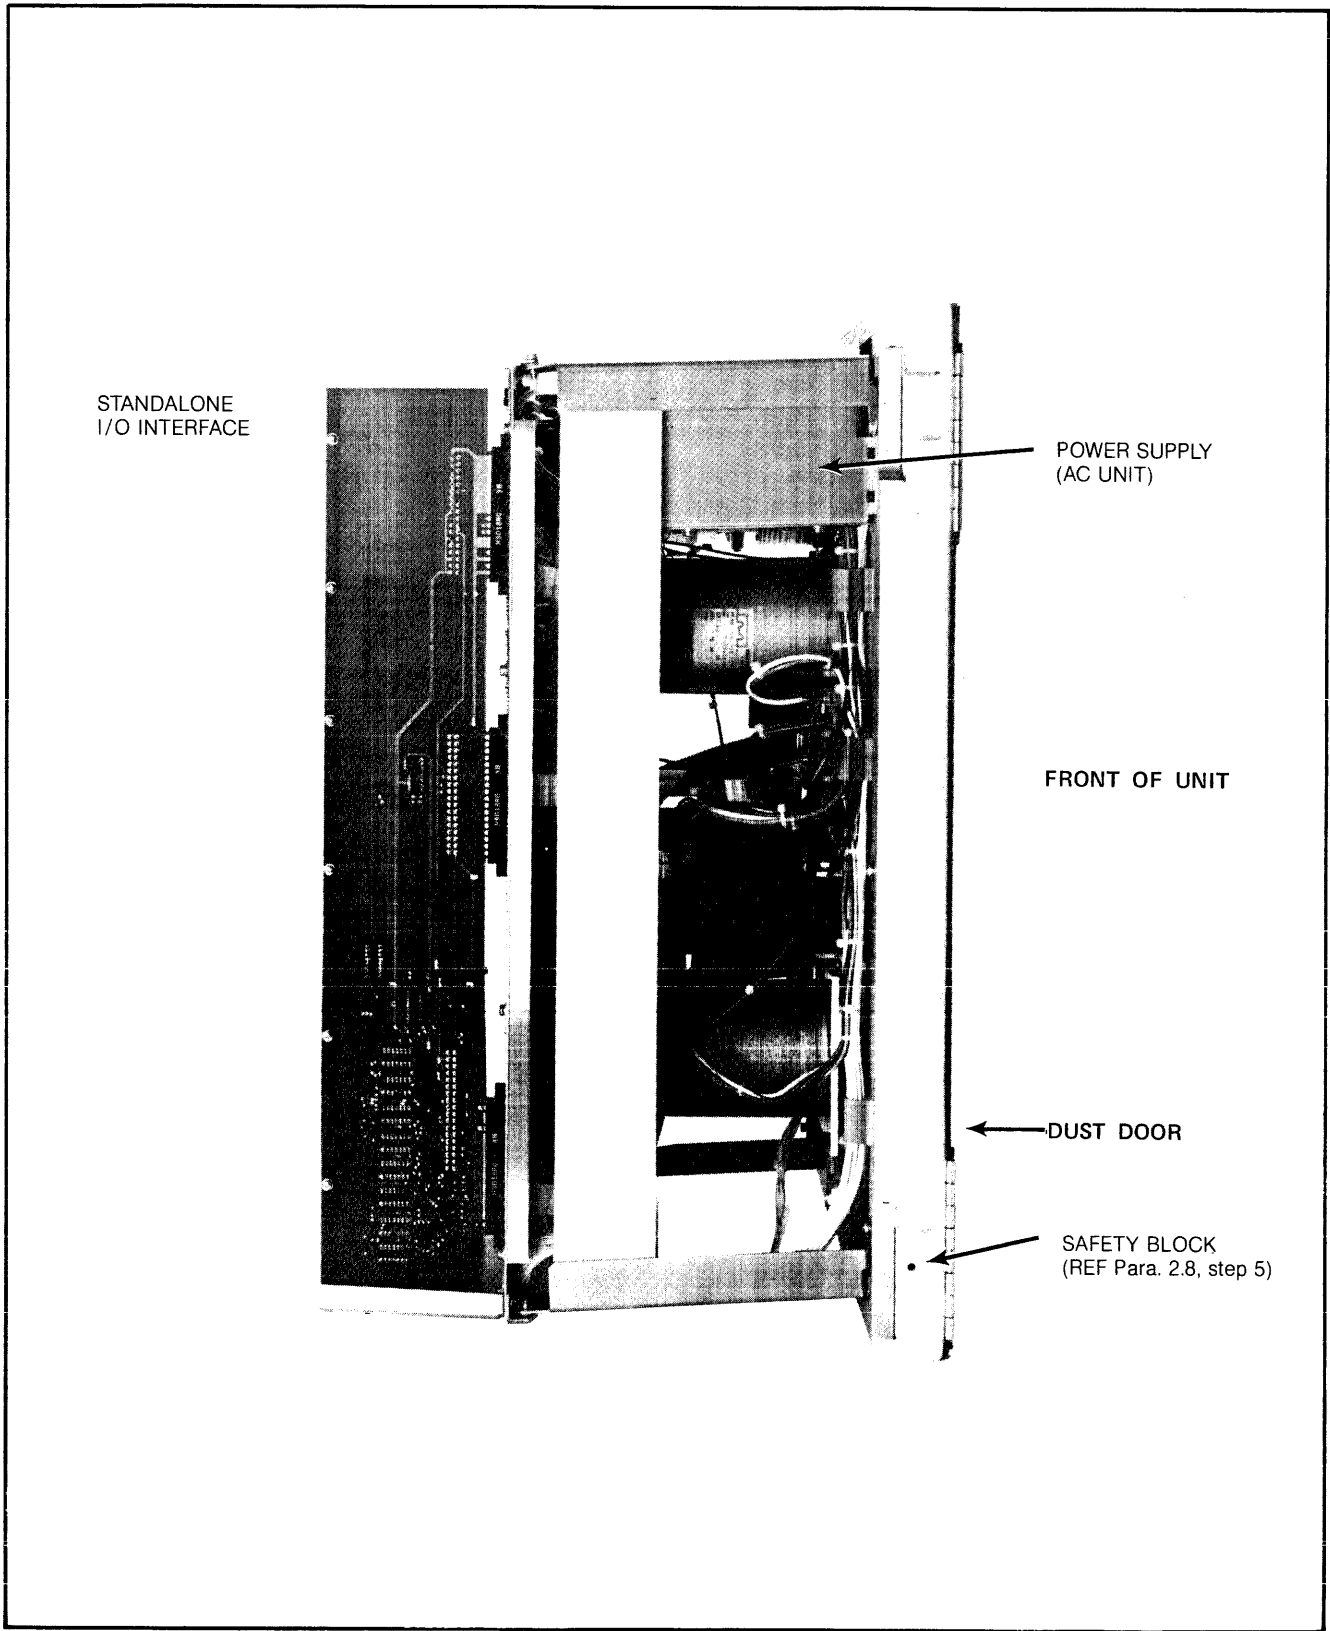

FIGURE 2-9. TRANSPORT MOUNTING SAFETY BLOCK AND INTERFACE DETAILS
5. Hoist tape transport onto mounting hinges in RETMA rack, then install safety block under lower hinge. (See Figure 2-9.)